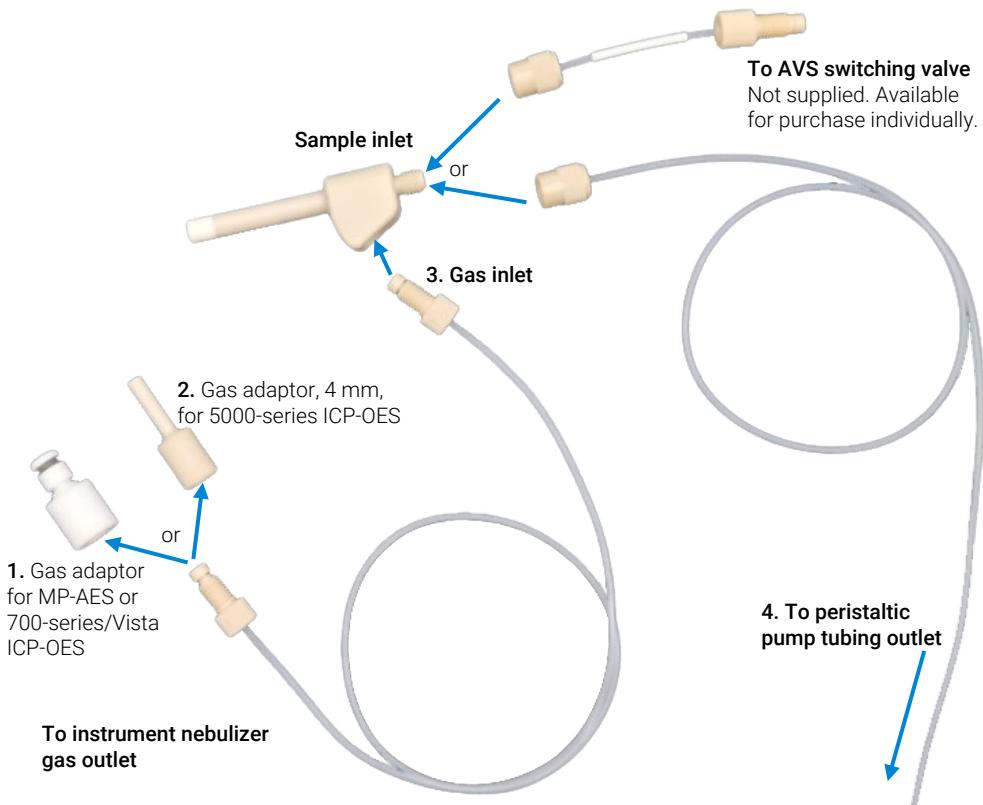

Figure 2 V-groove, inert high TDS nebulizer assembly instructions
- Sample inlet line, nebulizer connector to sample tubing (1/16") (4 in Figure 2)
- Gas inlet line, nebulizer to gas adaptor for 5000-series ICP-OES (3 in Figure 2)
- Gas adaptor for 5000-series ICP-OES nebulizer gas outlet (2 in Figure 2)
- Gas adaptor for MP-AES or 700 /Vista Series ICP-OES (1 in Figure 2)